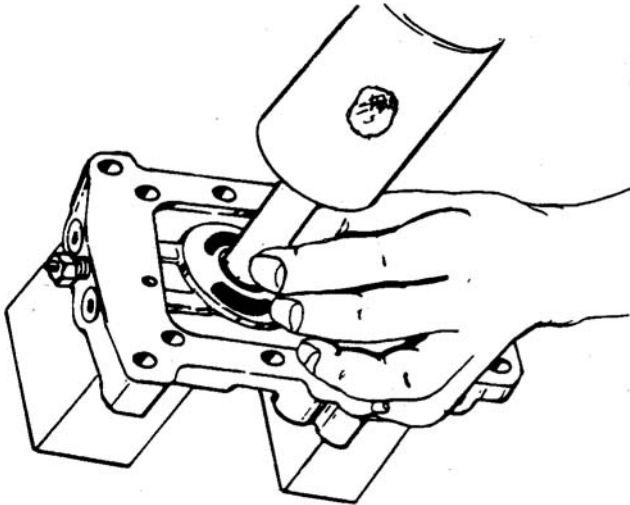

Figure 6-37. Removal of Needle Bearing
9. Press out needle bearing. See Figure 6-37.